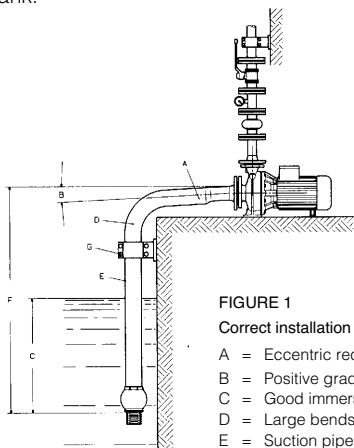

FIGURE 1
5.5 Suction and delivery pipes (See fig. 1)